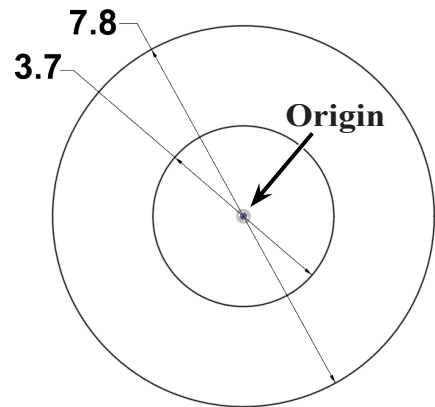

Fig. 2
Step 2. Click **Center Diameter Circle**  (C) in the Create area of toolbar.
Step 3. Sketch **two circles** at the Origin , Fig. 2.
Step 4. Click **Dimension**  (D) on the toolbar.
Step 5. Dimension circle **diameters 3.7 and 7.8**, Fig. 2.